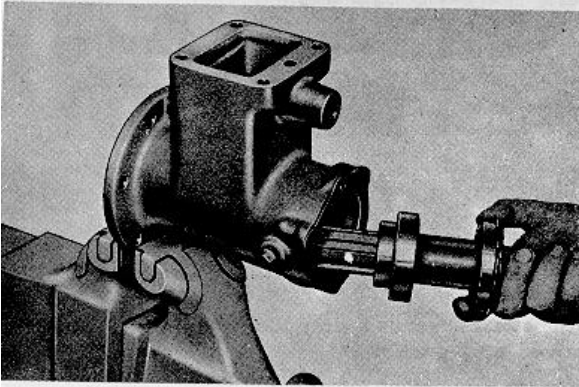

Fig. 20.
7. Remove sliding clutch and pull out shaft assembly (Fig. 20).